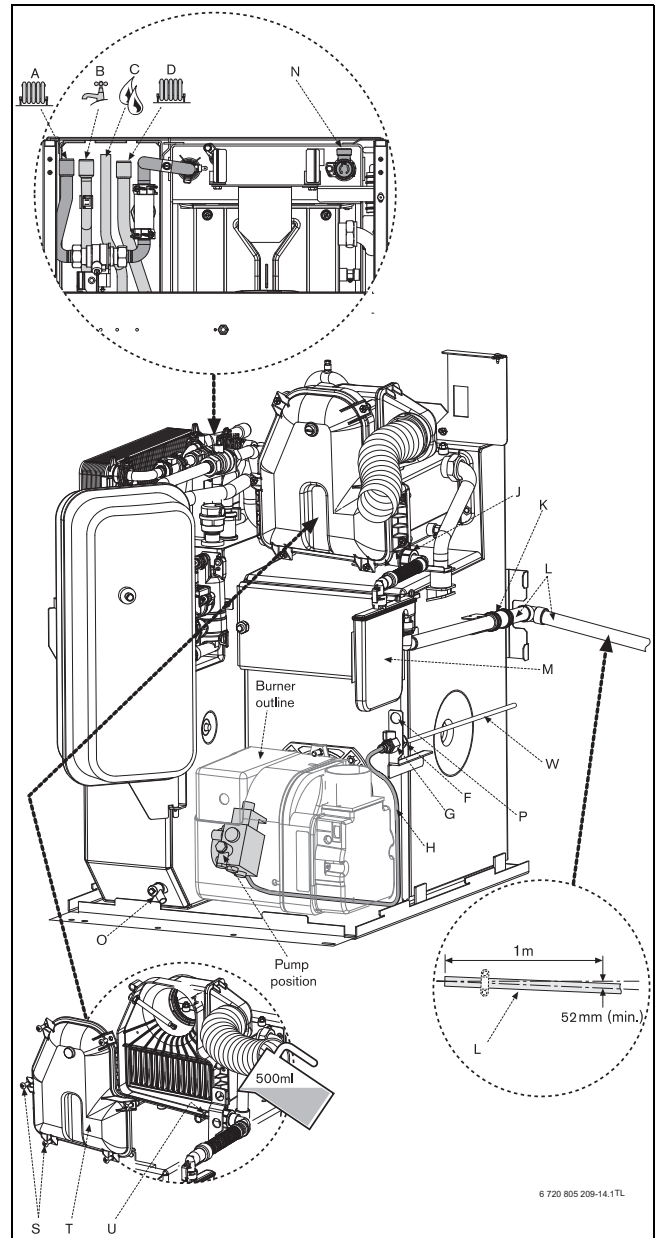

Fig. 29 Pipe connections
1. Check the inlet pipe connection (1).
- ▶ Unscrew return plug (2).
- ▶ Screw in by-pass screw (3) which is attached to the oil pump.
2. Connect the flexible oil pipe return hose (not supplied) to the oil pump and return pipe fixing and tighten to secure (for routing see figure 29).